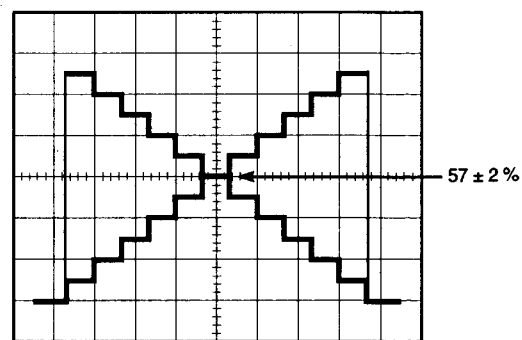

Fig. 5-1-32
- Adjust VR109 so that the Cross Point level of the Gray Scale becomes  $57 \pm 2 \%$  and the carrier becomes minimum as shown in Fig. 5-1-32.
- Adjust VR209 so that the Cross Point level of the Gray Scale becomes  $57 \pm 2 \%$  and the carrier becomes minimum as shown in Fig. 5-1-32.
- Adjust VR309 so that the Cross Point level of the Gray Scale becomes  $57 \pm 2 \%$  and the carrier becomes minimum as shown in Fig. 5-1-32.